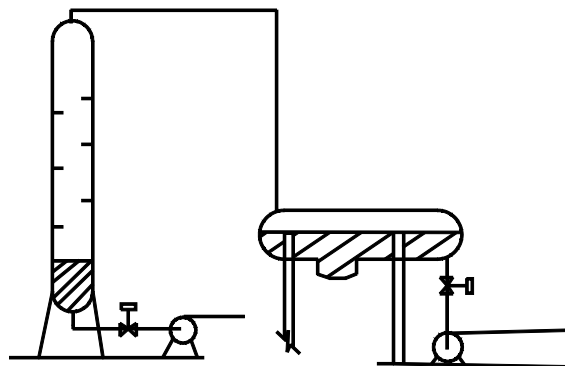

Figure 2. Fail-Safe Emergency Block Valves.
- Install a FSEBV between the tower bottoms outlet and bottoms pumps (Figure 2). Situate the valve as close as possible to the bottom flange to reduce the length of exposed piping and liquids. Introduce additional pipe supports to support the additional weight of these valves. Fireproof these supports if they are located within the drainage area of a sump. Pumps without seals do not require these valves unless indicated by a field review.